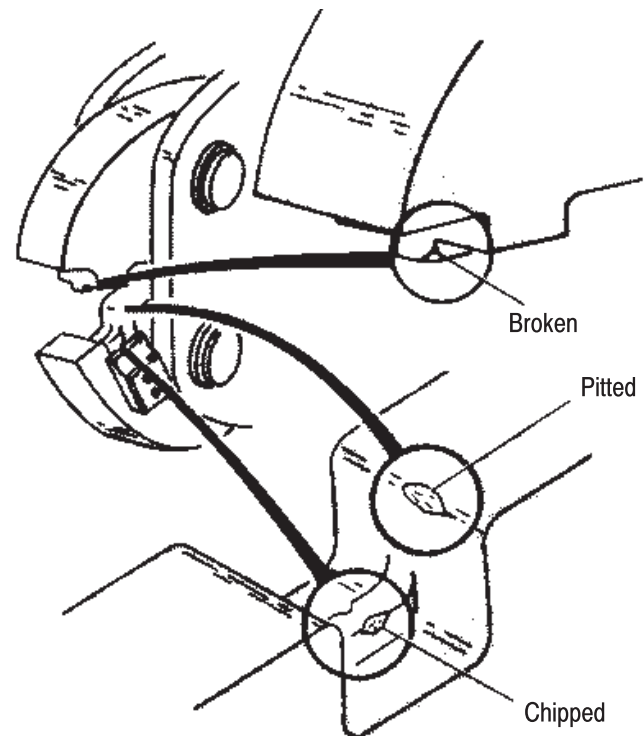

Figure 6
2. Inspect the die closure surfaces of the head for broken, pitted, or chipped conditions. Although dies may gage within permissible limits, worn or damaged die closure surfaces are objectionable and can affect the quality of the crimp. Examples of possible damaged die closure surfaces are shown in Figure 6.